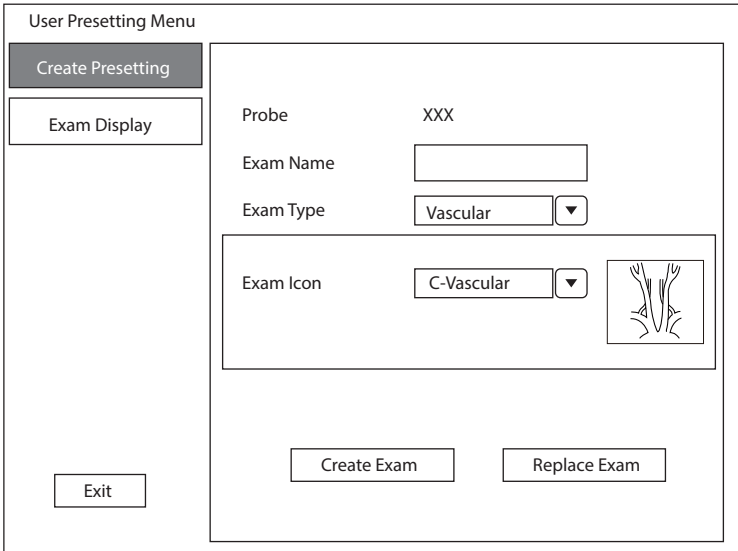

Figure 6-2 User Presetting Screen
4. Click **Yes** to enter the **User Presetting Screen** as shown in Figure 6-2.